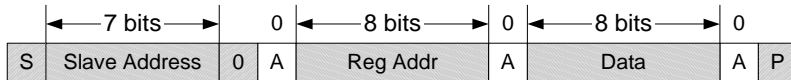
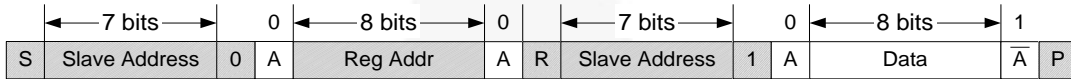

Figure 46. Write Transaction
Figure 47. Read Transaction
During a read from the FAN54005 (Figure 47), the master issues a Repeated Start after sending the register address and before resending the slave address. The Repeated Start is a 1-to-0 transition on SDA while SCL is HIGH, as shown in Figure 45.
**Table 19. Bit Definitions for Figure 46 and Figure 47**